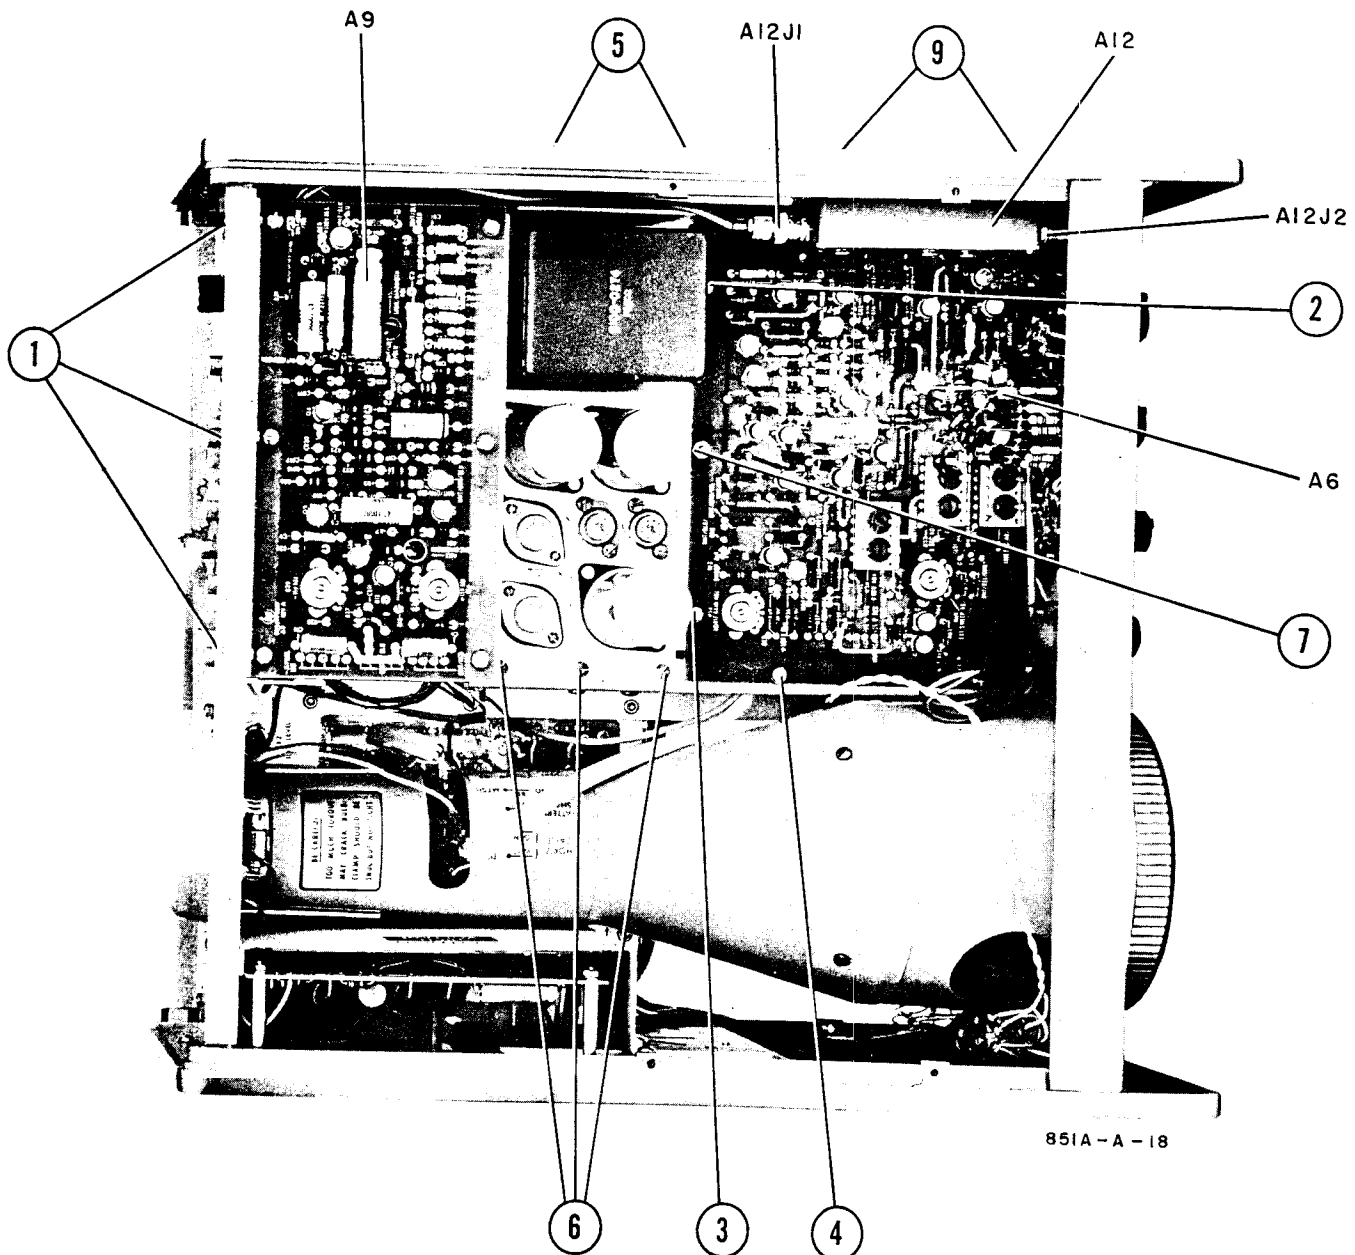

Figure 5-13. Top View of 851 Display Section
- b. Refer to Figure 5-13. Remove the three screws designated ①; these are 6-32 x 3/8 BH machine screws with integral lockwasher, and are accessible from the rear plate.
- c. Remove screws ②, ③, ④; these are 6-32 x 3/8 BH machine screws, each fitted with a split lockwasher.
- d. Remove the two screws designated ⑤; these are 8-32 x 3/8 FH machine screws fitted with integral
d. Disconnect cable from A12J2 (see Figure 5-13). This is a right-angle connector and is a tight fit; if there is difficulty disconnecting it, disconnect the cable from A12J1, remove screws designated ⑨ which secure A12 to the side casting, and lift Assembly A12 up far enough to disconnect the cable from A12J2.
- Disconnect cable from A12J1 (Figure 5-13).
- Remove two screws (9) which hold A12 to the side casting; these are 6-32 x 3/8 FH machine screws with integral lockwashers.